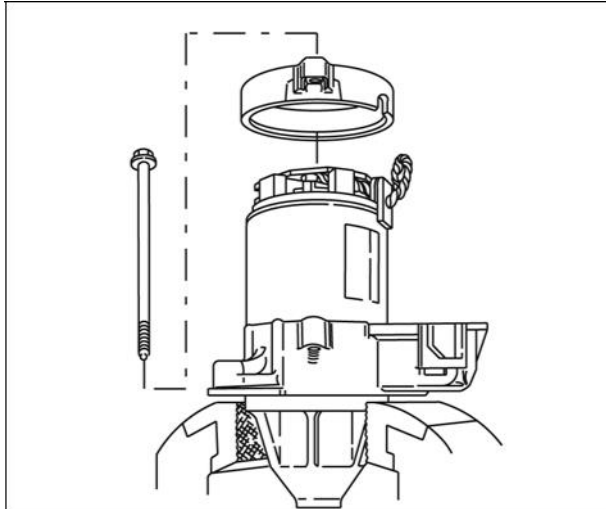

Figure 59
7. Remove starter housing (A, Figure 59).
8. Remove armature (B) and drive lever (C).